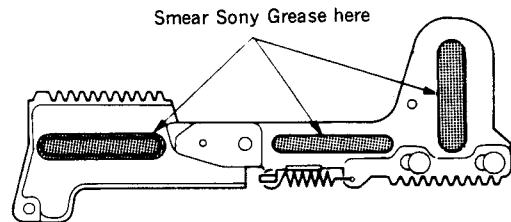

Fig. 3
- (1) Replace the L Slider Assembly with a new one and smear Sony Grease to the three longitudinal holes as shown in figure 3.
- (2) Assemble the parts with Removal Steps (8) to (11) in reverse order.